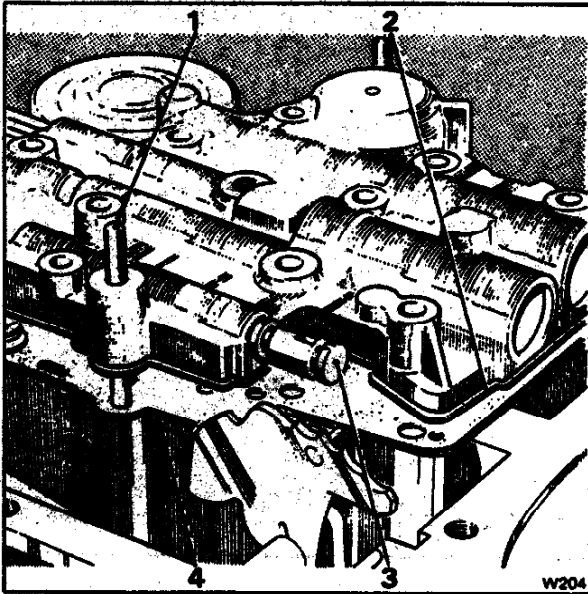

Fig. T61 Fitting the control valve unit
3. Using two guide pins screwed into the casing, fit the control valve unit into position (see Fig. T61), with a new valve body/spacer plate gasket.